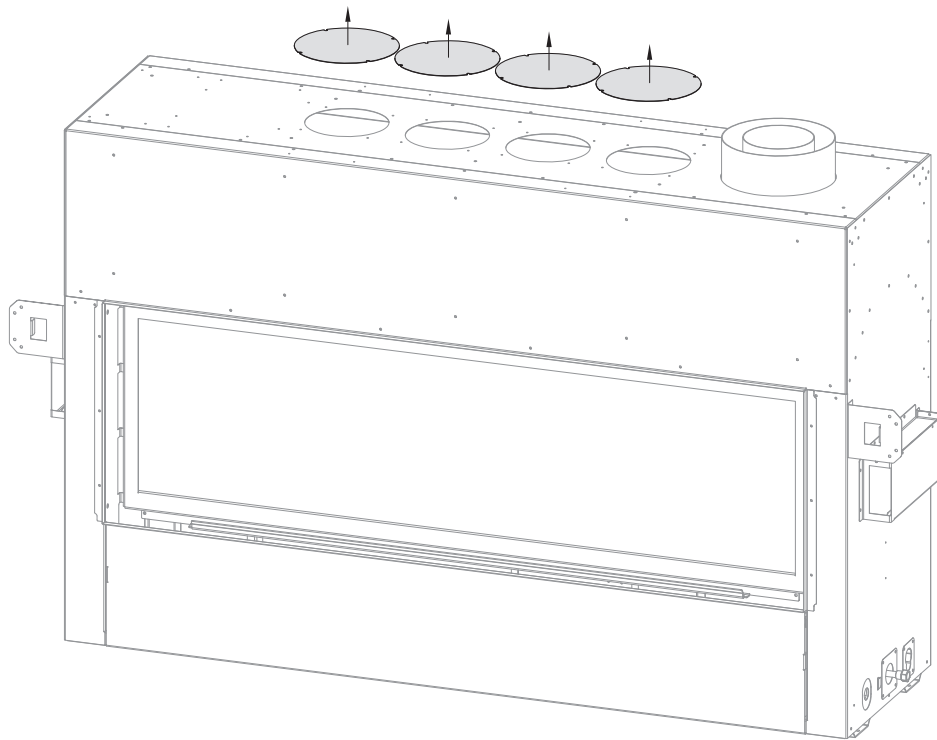

Figure 4.5 - Cover Plate Removal
1. Remove the (4) top cover plates on top of the fireplace. See Figure 4.5. If planning to install a Komfort Zone kit, these (4) cover plates will also have to be removed. See the #KZK-054 or #KZK-1510A manual for further fireplace preparation.